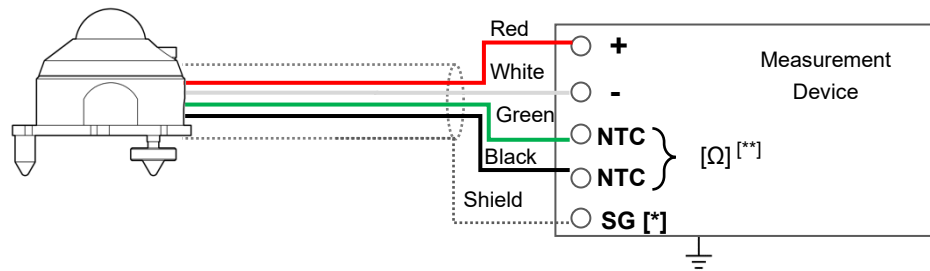

Figure 5-7. How to connect MS-80U
- C. MS-80U (Temperature sensor type NTC 10k Ω). Connect the 4 wires with corresponding color to the input terminals of the voltmeter or data logger (figure 5-7).